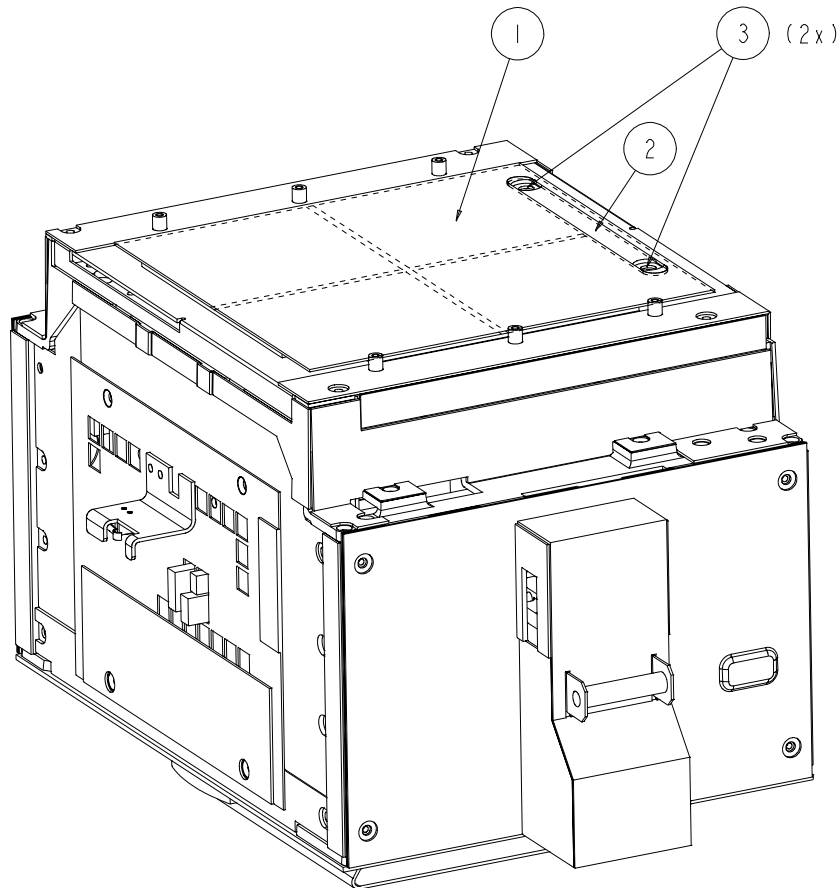

Figure 25: Adjustment Field Indication Plate
- Check whether the field indication plate is mounted correctly onto the adjusting strip, item 2 Figure 25
Procedure (refer to Figure 25, Page 44)
3. Loosen the two screws (items 3, Figure 25) and move the adjusting strip (item 2) and the Field Indication Plate (item 1, Figure 25) so that the center of the Field Indication Plate cross-lines is parallel and within 2.5 mm of the light field center line.
6. Move the adjusting strip (item 2, Figure 25) and Field Indication Plate (item 1, Figure 25) so that the center of the cross of the Field Indication Plate is parallel and within 2.5 mm of the centerline of the light field.
7. Secure the adjusting strip with the two screws (items 3, Figure 25).
3. Remove the Field Indication Plate, item 1, Figure 25, page 44